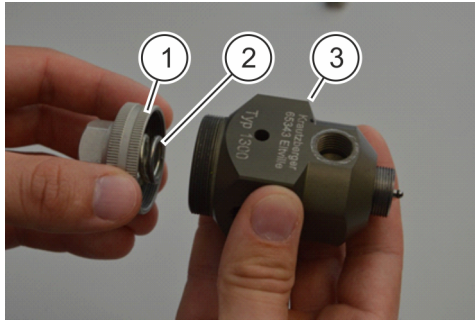

Fig. 17: Assembling the sealing cap and pressure spring
9.  Screw the sealing cap ( Fig. 17/1) and pressure spring ( Fig. 17/2) onto the main element ( Fig. 17/3).